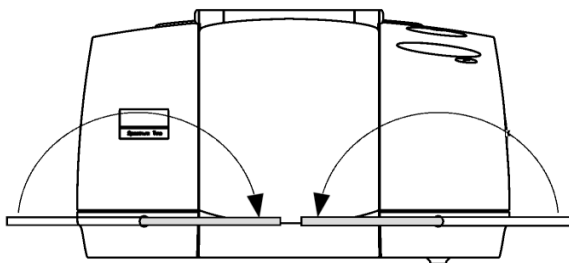

Figure 38 Undoing the locking bolts
6. Undo the two locking bolts on the front of the instrument using the hexagonal wrench supplied; insert the wrench, so that the free end is pointing horizontally away from the instrument and then rotate the wrench 180° in the direction indicated by the arrows in Figure 38.
11. Lock the two locking bolts by inserting the wrench into each bolt in turn and rotating it opposite to the direction indicated by the arrows in Figure 38.